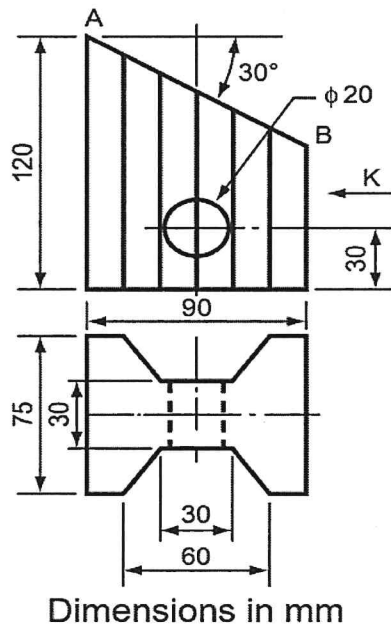

Figure 3
4. The figure 3 shows details of a cast concrete block. Draw the following, in 3rd angle projection: